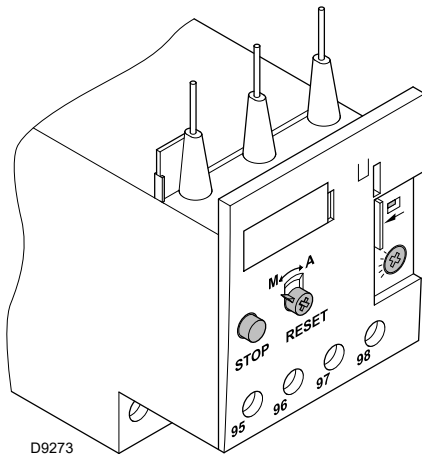

Fig. 22
The electro-mechanical thermal relay (Fig. 22) is used to avoid damage to the motor owing to a strong increase in absorption or the lack of a phase.
- To reset, in the case of an intervention of the thermal relay, press the button “RESET” (Fig. 22).
- The button “STOP” (Fig. 22) opens the NC (95-96) contact and stops the motor.